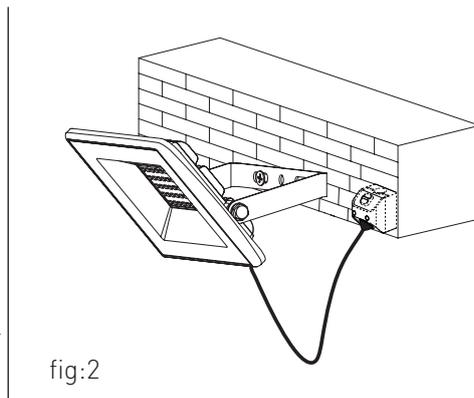
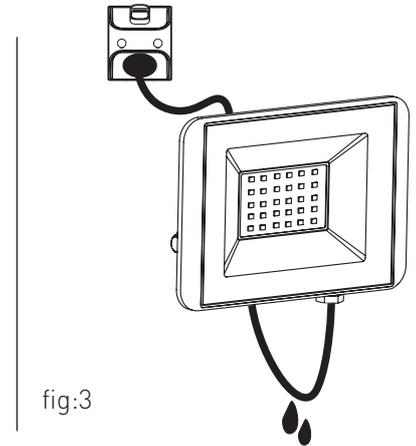

fig:2
fig:3
2. Use the mounting bracket (A) from the floodlight to mark the mounting positions on the wall/ceiling.
4. Orient the floodlight to the desired position and tighten the bolts (B) completely. Secure any excess cable length to avoid choking or tripping hazards.
5. Ensure the power cord leaves the unit in a downward direction (fig 3) even if the cable enters the wall above the unit. This is to provide a point for water to drip down to the ground instead of running along the cable and into the unit.
DIY	Plug into existing wall socket (See fig.2 and fig.3)